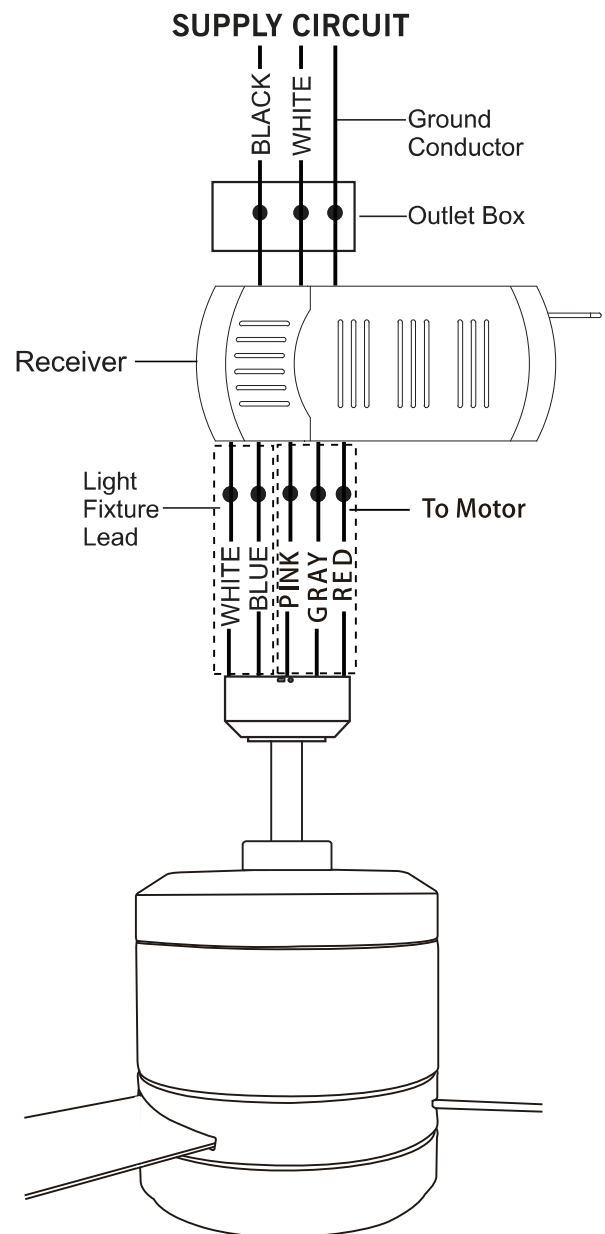

Fig.13
Step 1 Connect the fan power supply (pink, gray, red) lines and the lamp (blue, white) lines to the corresponding color power supply lines of the receiver, as shown in (Fig.13).